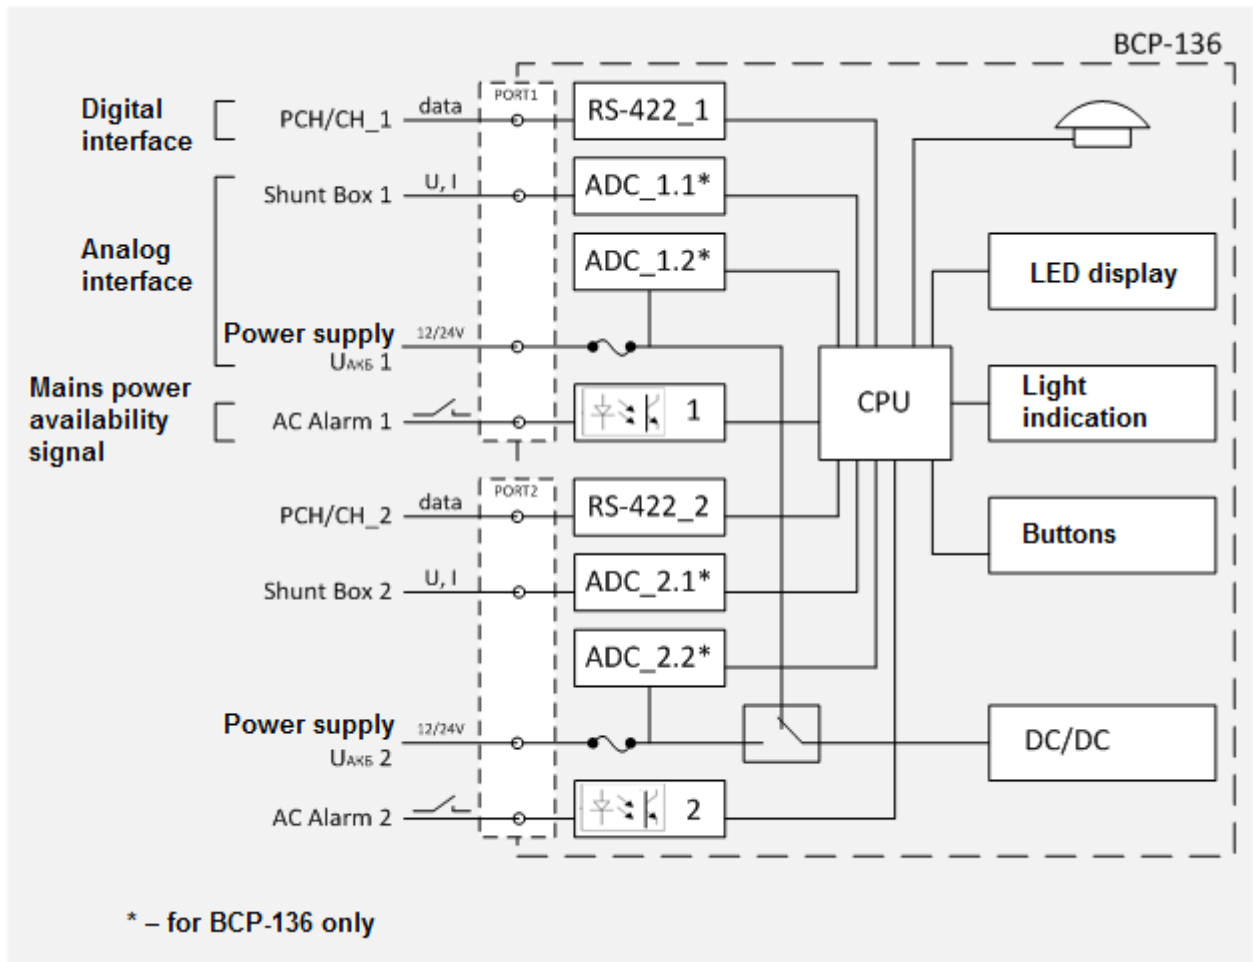
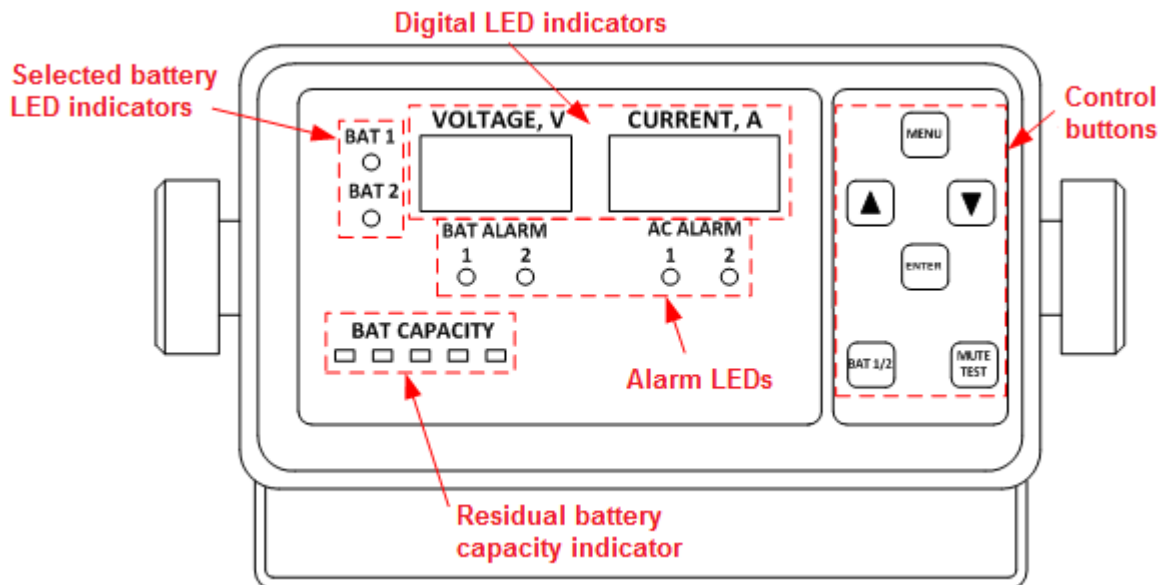

Fig. 1 Battery panel structural diagram
Fig. 2 Arrangement and general purpose of indicators.
- selected battery LED indicators (ref. Fig. 1 and Fig. 2)
Structural diagram of the battery panel is shown in Fig. 1.
○ Alarm LEDs BAT ALARM and AC ALARM (ref. Fig. 2).